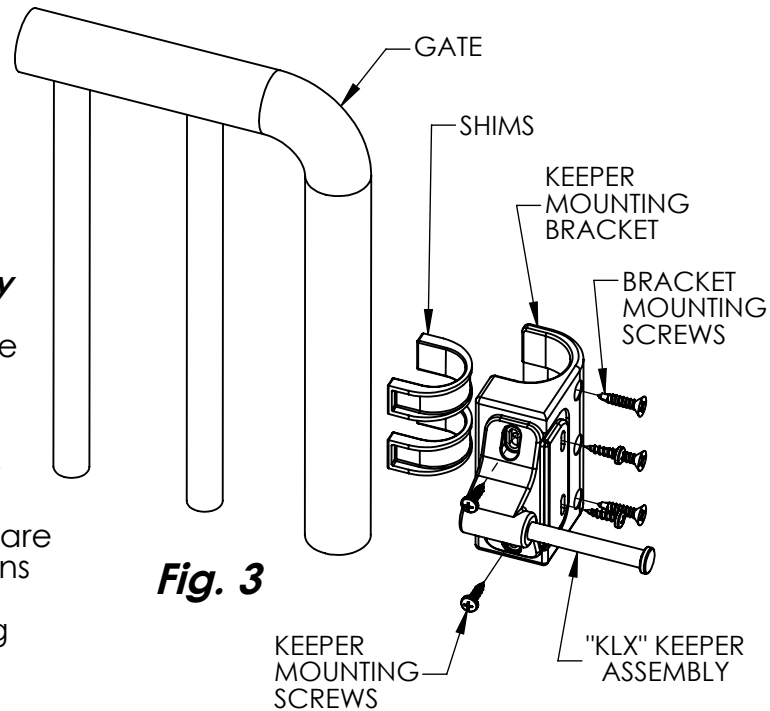

Fig. 3
STEP 2 - Installing the Keeper Mounting Bracket (Fig. 3)